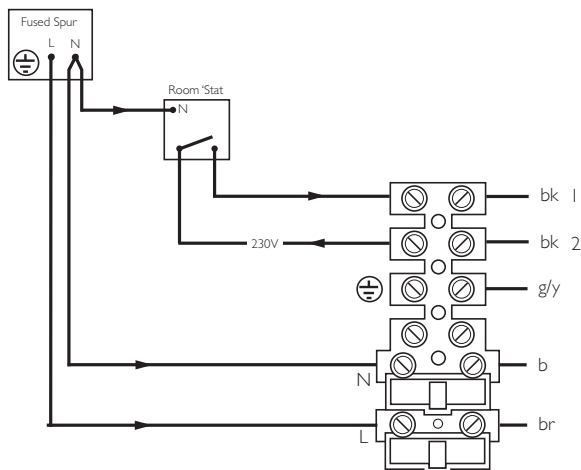

Fig. 60
6. Remove the link between terminals 1 & 2. The 230V supply at terminal 2 must be connected to the thermostat. The switched output from the thermostat must be connected to terminal 1 (Figs. 60 & 61). If the room thermostat being used incorporates an anticipator it **MUST** be wired as shown in Figs. 60 & 61.